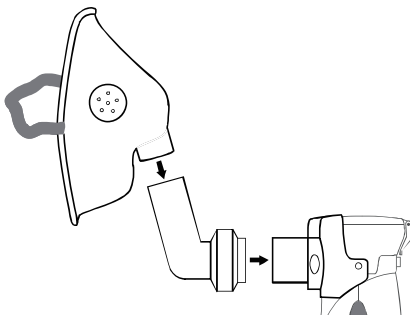

Fig. 11
- Install the mask: connect the connector and mask successively along the direction of arrow (see Fig. 11).